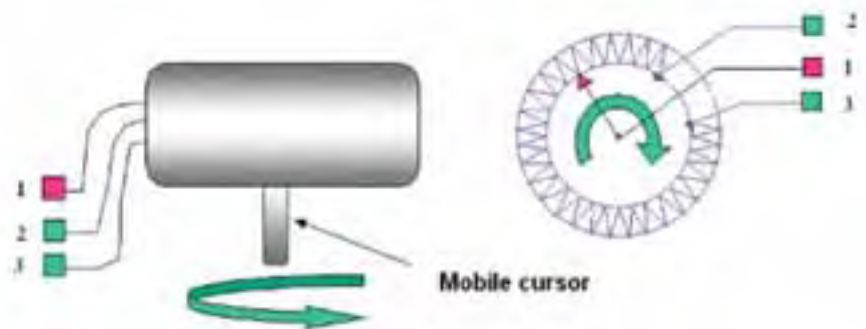

Fig 2.11b - Rotary displacement transducer
- Rotary displacement transducer, or rotary transducer (fig.2.11b)